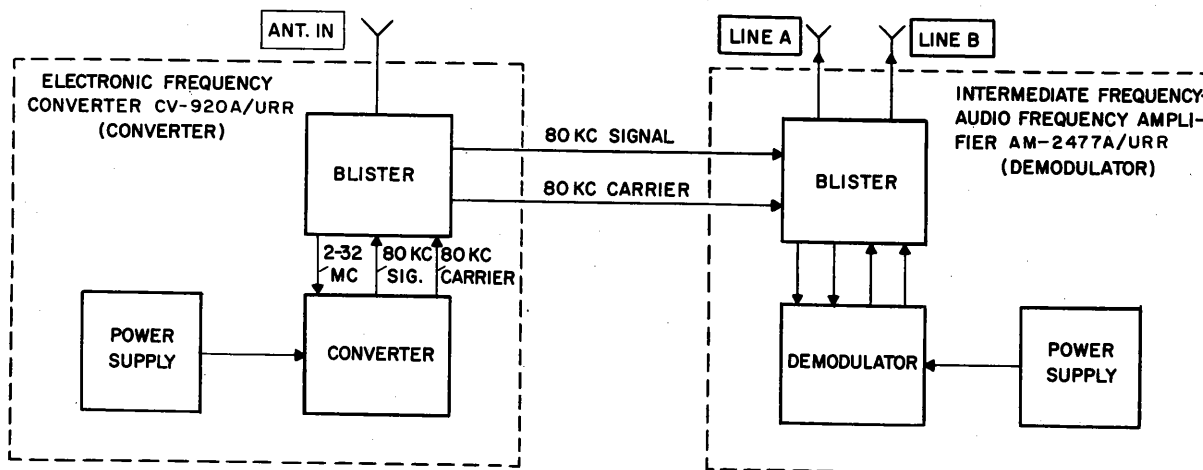

Figure 4-1. Radio Receiving Sets AN/WRR-2A and AN/FRR-59A, Basic Block Diagram
- (1) A1 - On/off keyed continuous wave (CW)
- (2) A2 - On/off keyed tone-modulated continuous wave
- (3) A3 - Amplitude modulation (AM)
- (4) A9 - Single sideband
- (5) F1 - Frequency-shift teletype
- (6) F4 - Facsimile.
*b. SYSTEM BLOCK DIAGRAM.*—Figure 4-1 is a basic block diagram of the receiver. It shows the functional relationship between the two drawers which comprise the receiver. These are:
- (1) Electronic Frequency Converter CV-920A/URR (converter)
- (2) Intermediate Frequency-Audio Frequency Amplifier AM-2477A/URR (demodulator).